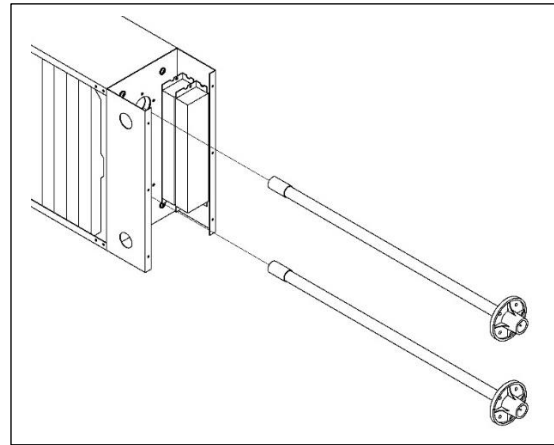

Figure 11
8.) Remove lamps by alternating a quarter turn clockwise and a quarter turn counterclockwise as it is pulled out. This will prevent the lamp from becoming bound up in the catalyst media. See Figure 11.
10.) Replace lamps by alternating a quarter turn clockwise and a quarter turn counterclockwise as it is pushed in. This will prevent the lamp from becoming bound up in the catalyst media. See Figure 11.